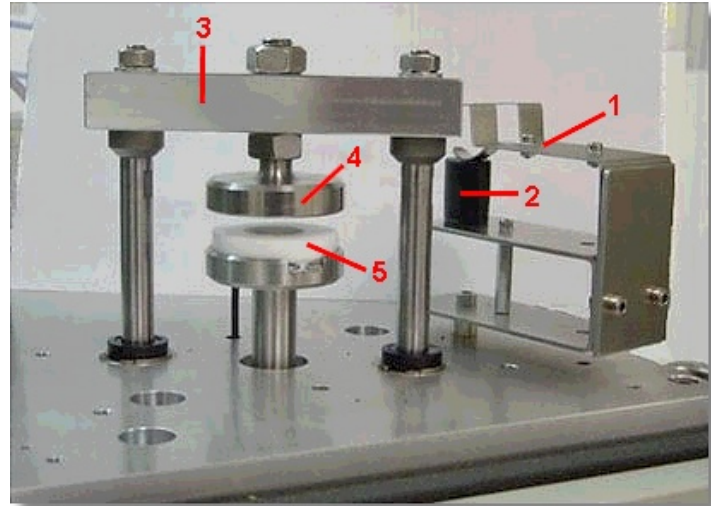

Fig. 55: Test area with preheat station (temperature chamber tipped). 1=preheat station, 2=sample, 3=crosshead, 4=upper holder, 5=lower holder with manacle ring
5. Draw off the lower holder (see Fig. 55, no 5) incl. its mounting to the top.